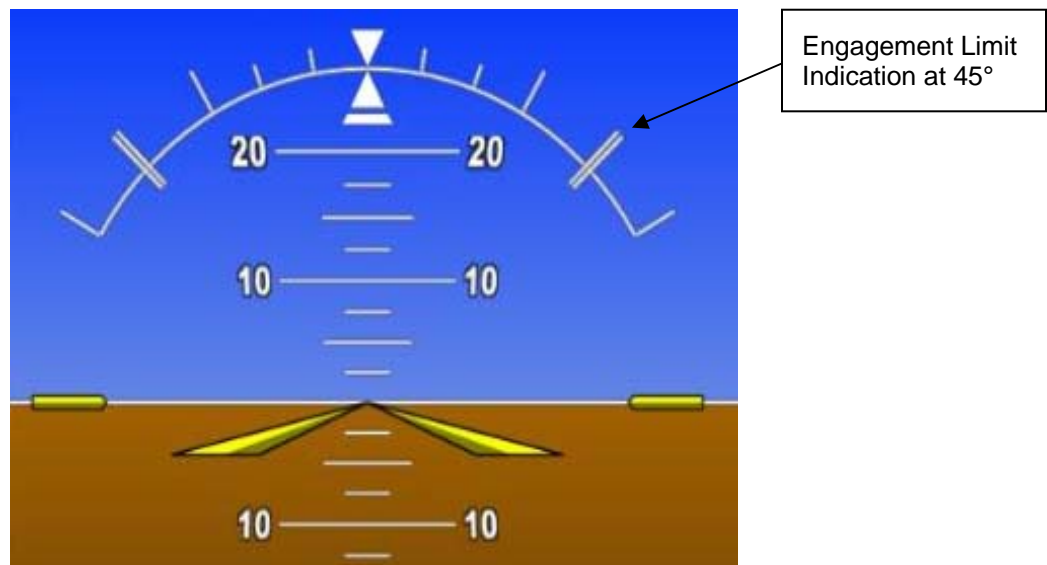

Figure 16 – Nominal Roll Attitude ESP Engagement Limit Indications
PFD display symbology implemented for ESP is illustrated in Figures 16 through 18. All other indications on the GDU displayed in the examples are to provide position reference for the ESP system symbology. The values indicated are not representative of a condition required to activate ESP.
- The engagement and disengagement attitude limits are displayed with double hash marks on the roll indicator depending on the aircraft attitude and whether or not ESP is active in roll. When ESP is inactive (roll attitude within nominal limits) only the engagement limit indications are displayed in order to reduce clutter on the roll indicator. See Figure 16 for an example of the ESP engagement limit indications.